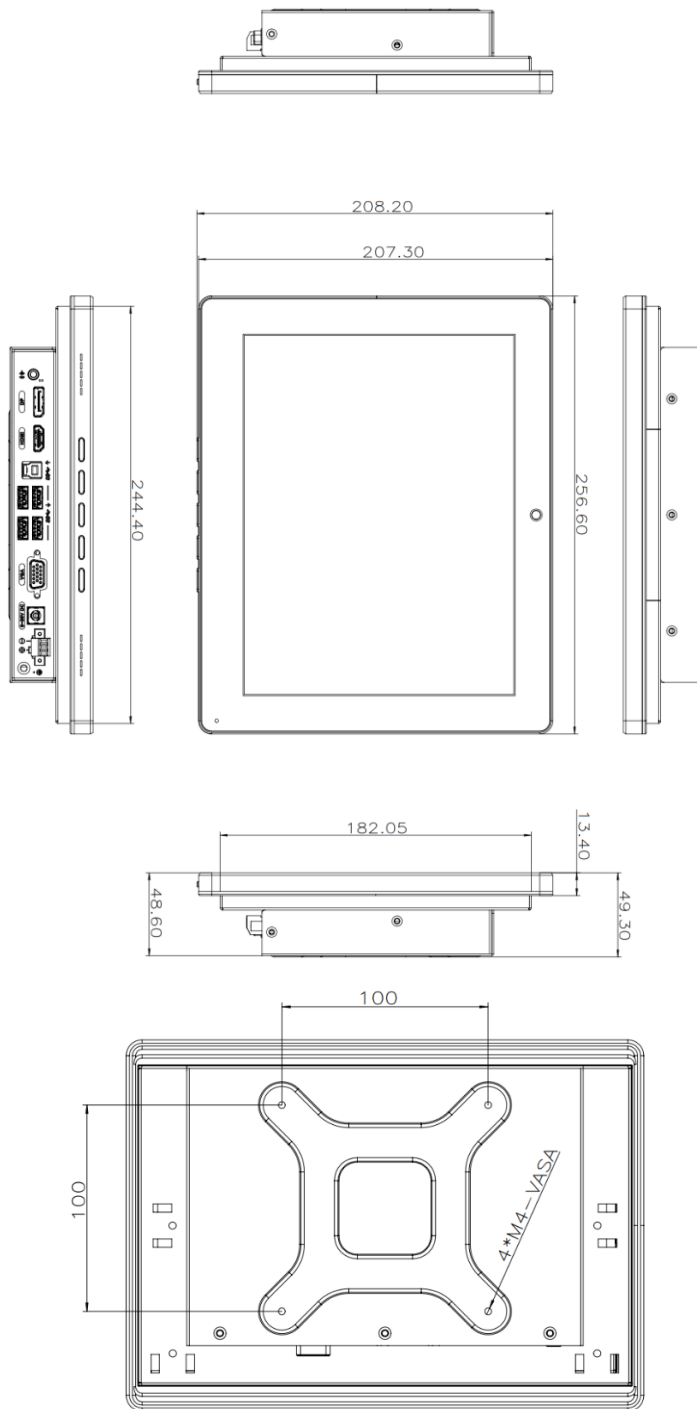

Figure 1-8: DM2-104E(L) Physical Dimensions (Unit: mm)
1.9.2 DM2-104E(L) Physical Dimensions
The physical dimensions of the DM2-104E(L) are shown in the **Figure 1-8**.